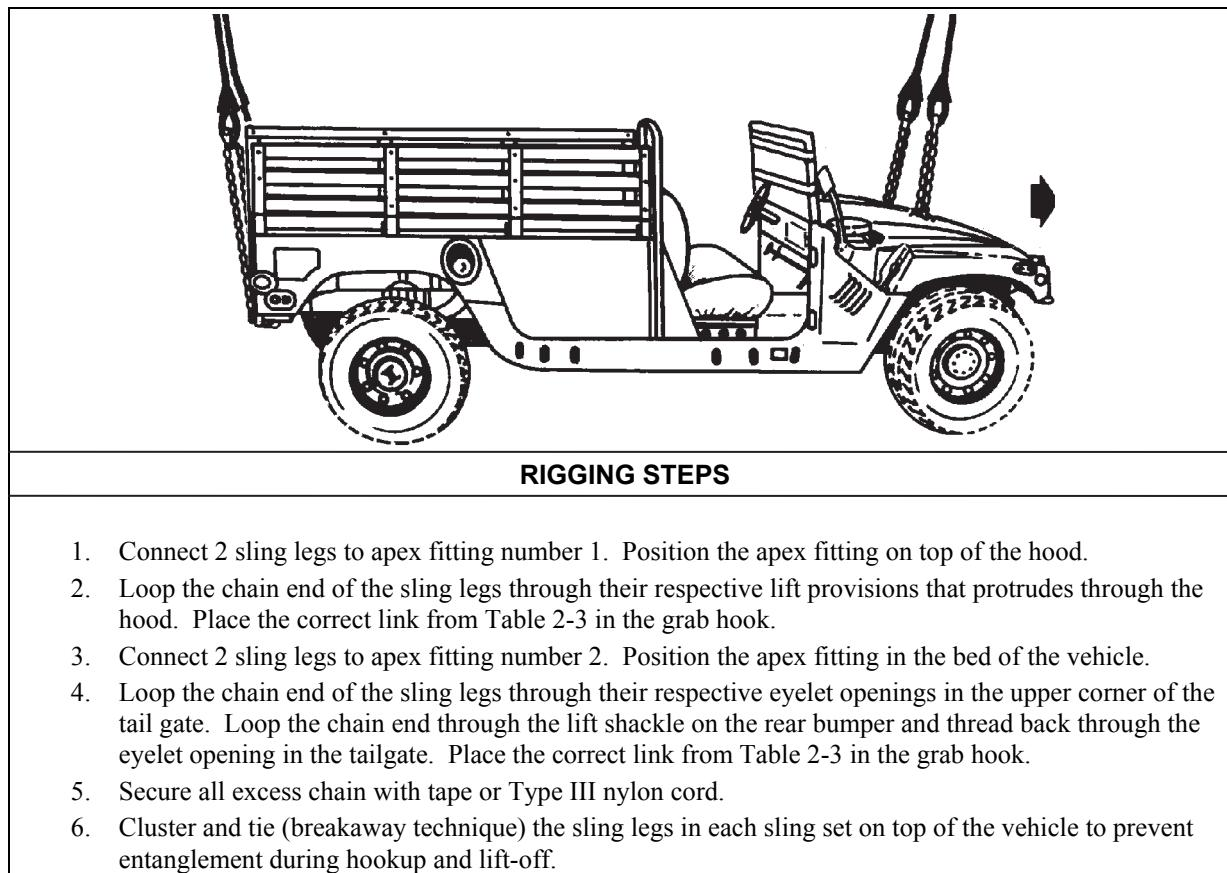

Figure 2-3. 1 1/4-Ton Cargo Truck
- **Rigging.** Rig the load according to the steps in Figure 2-3.